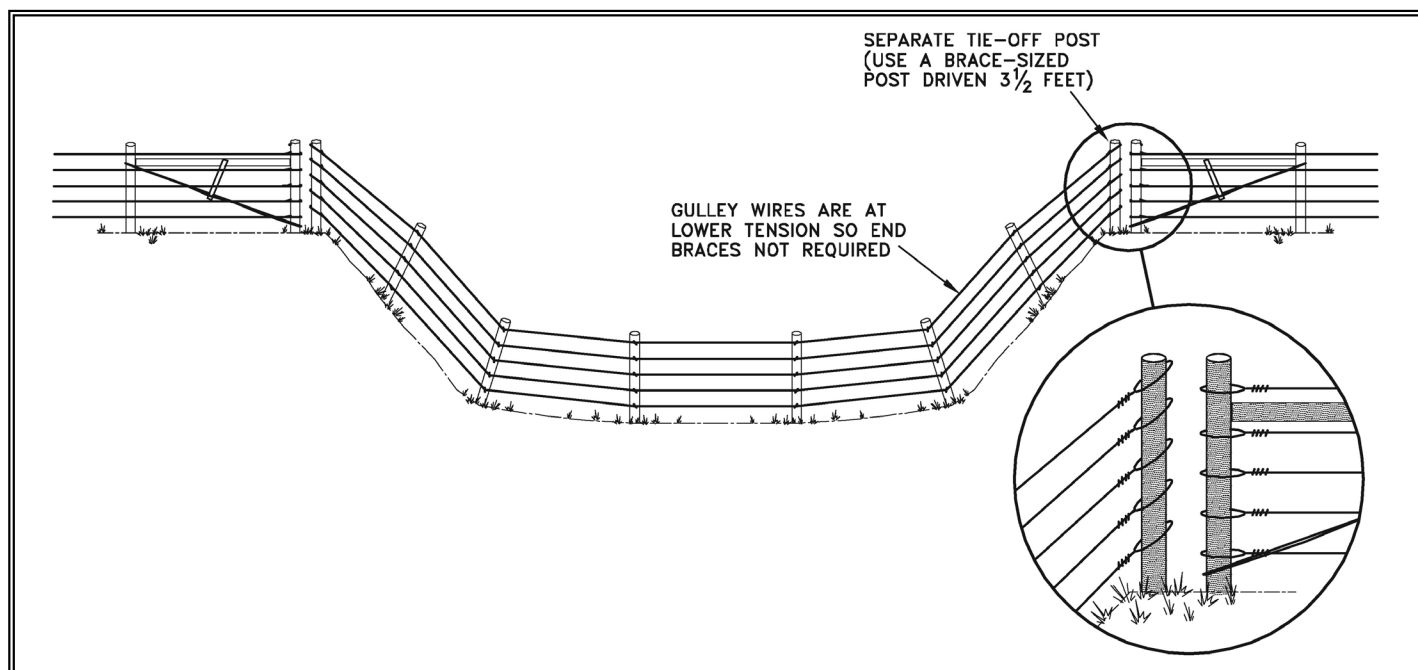

Figure 11 Breakaway Fencing a Gully
- using either gully fence methods previously shown in Figures 9 or 10 but post the gully sections separate from the main fence as shown in Figure 11, below using a brace-sized post driven $3\frac{1}{2}$ feet (min)